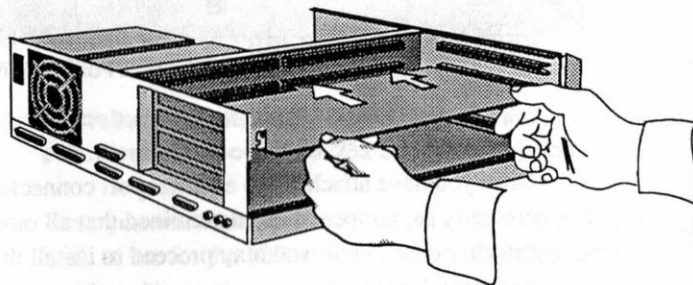

Figure 2.8 - Installing IOExtender in an A3000/A4000 (A3000 depicted).
3. Align the IOExtender board with the plastic slot guide at the front of the expansion slot. Take care that the board's external connectors extend through the correct expansion slot opening in the Amiga's rear panel (see either Figure 2.8 or 2.9).